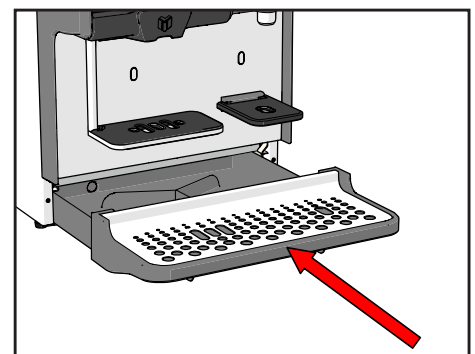

Figure 25.
4. Place the grid back in the drip tray and put the drip tray back in the machine (see Figure 25) and confirm on the screen that it is emptied.
17. Replace the drip tray with the grid (see Figure 25).